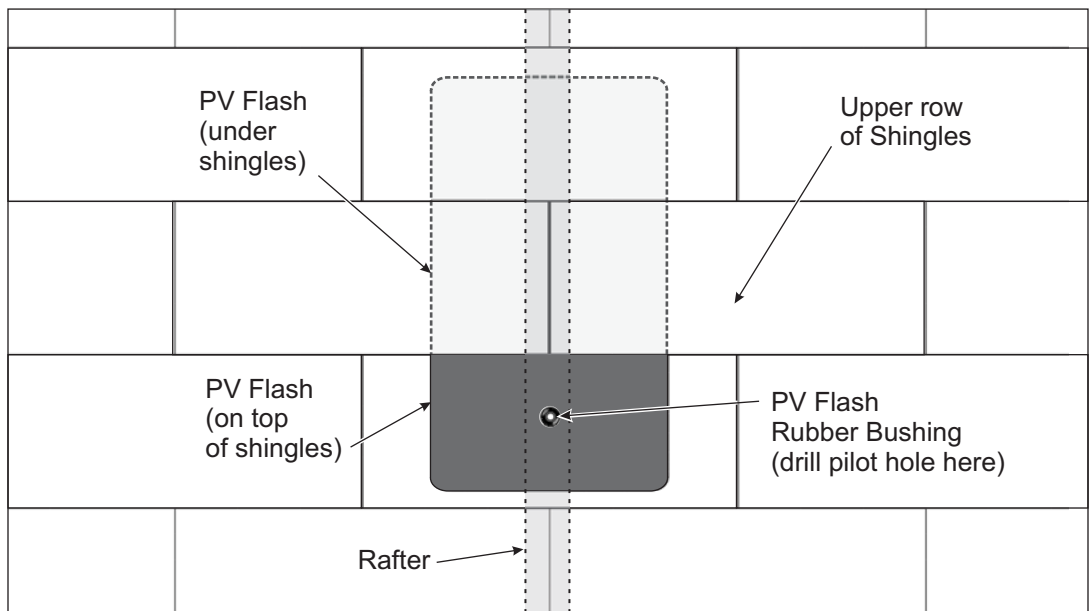

Figure 1-1: Positioning the PV Flash and Drilling Pilot Hole
- Position the PV Flash under the upper row of shingles. Be sure the long-portion (opposite the rubber bushing) is under the shingles. (See Figure 1-1)